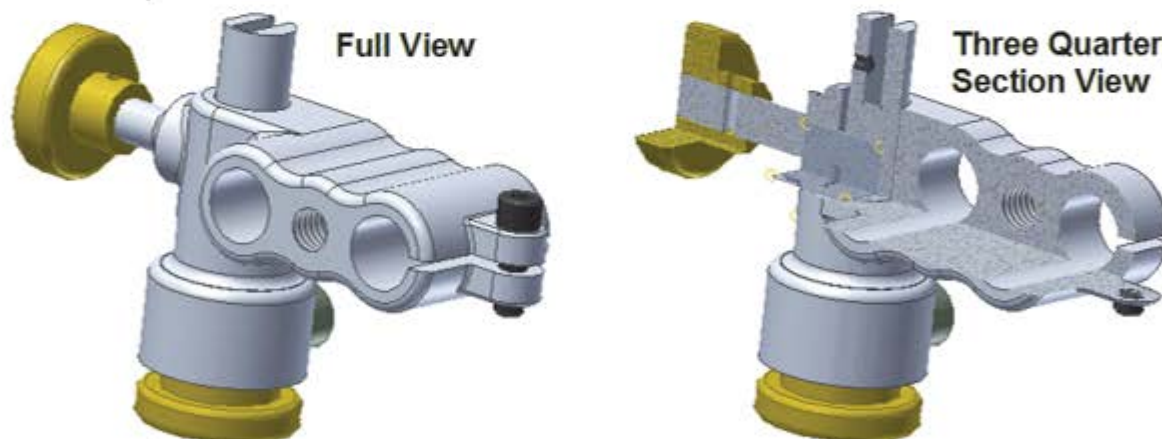

Figure 18–26
8. When a section view is active (as shown in the Three Quarter Section View in Figure 18–26), you cannot select components or reference entities.